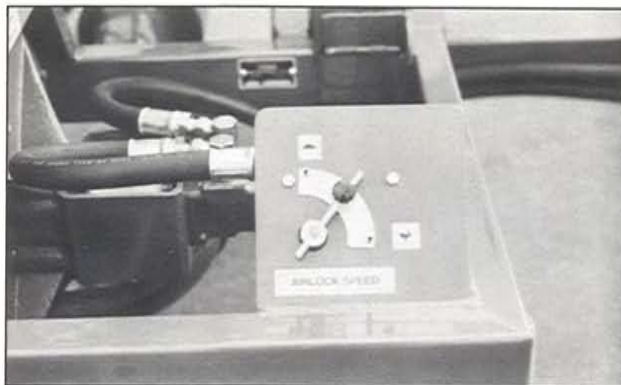

Figure 16 Airlock speed economy
3. Determine the airlock speed by counting the revolutions of the yellow coupler on the airlock drive. (see figure 15) and use the airlock speed control to set the airlock speed at the recommended RPM for your application. (see figures 16 and 17)